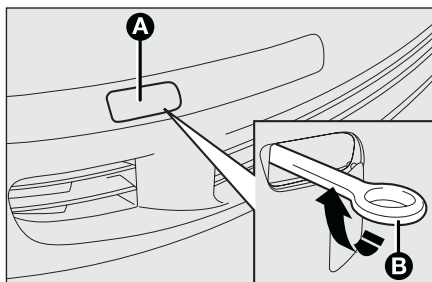
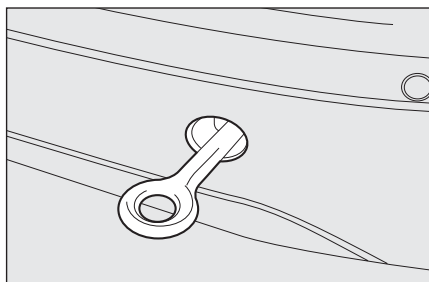

fig. 48
fig. 49
- ☐ tighten the ring on the rear **fig. 48** or front threaded pin **fig. 49**.